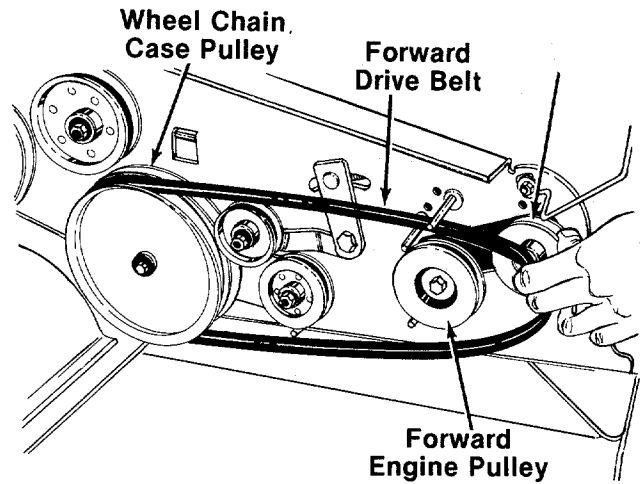

FIGURE 25.
- C. Lift belt off the forward engine pulley. See figure 25.